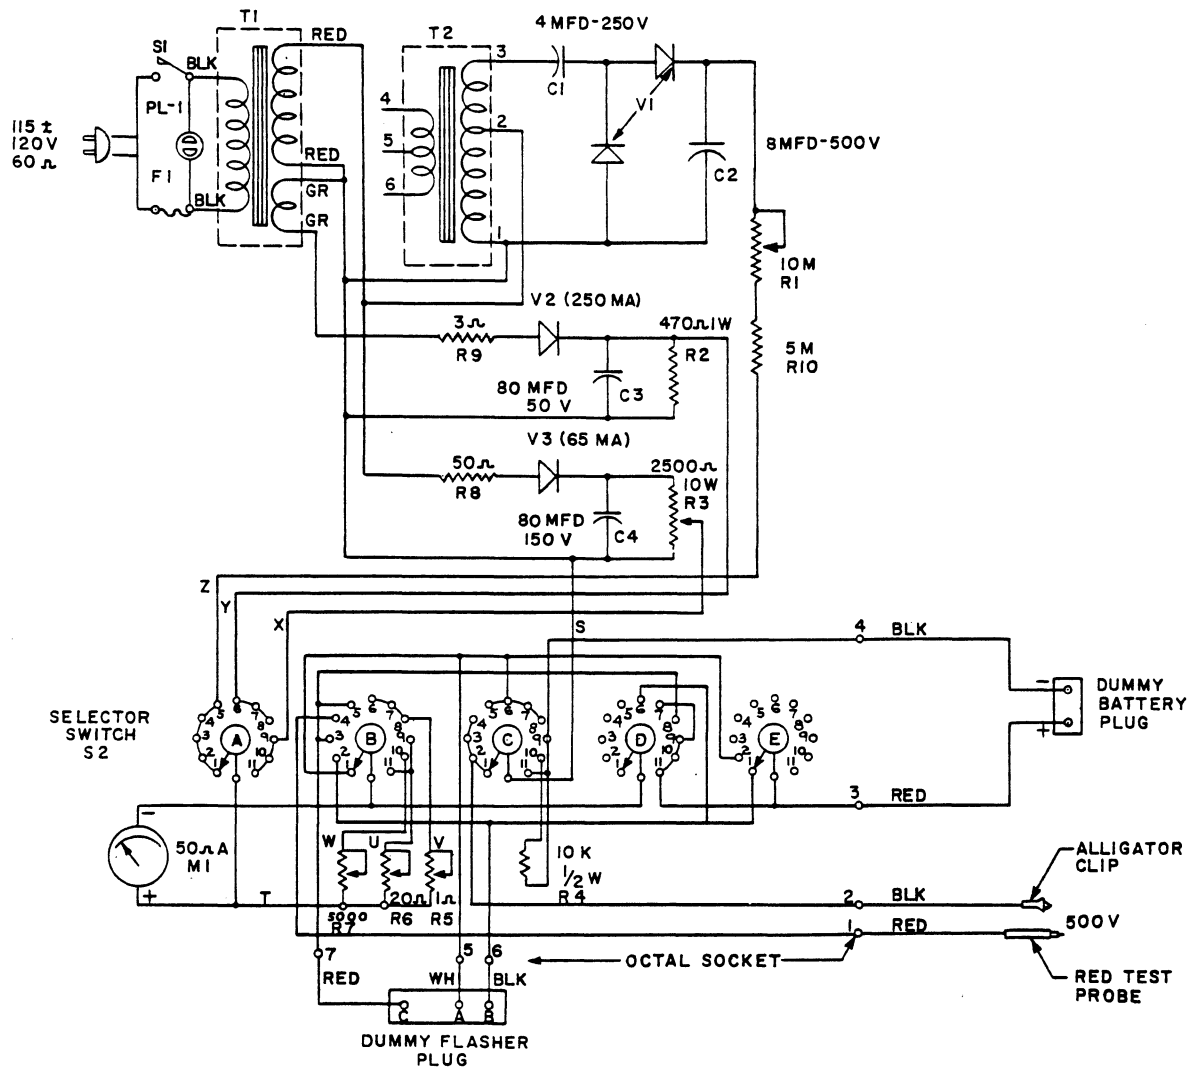

Figure 3A. SUPER GRAPHIC ANALYZER - SCHEMATIC DIAGRAM
**NOTE:** Paragraphs N, P & Q and figures 3a thru 3j will supply information for construction, function and calibration of the Super Graphic Analyzer.